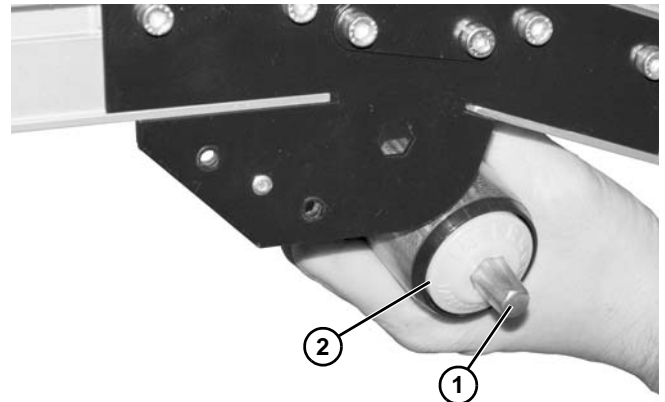

Figure 135
- b. For 5" (127 mm) or wider conveyor, push spring-loaded shaft ends (Figure 135, item 1) inward. Remove roller (Figure 135, item 2).